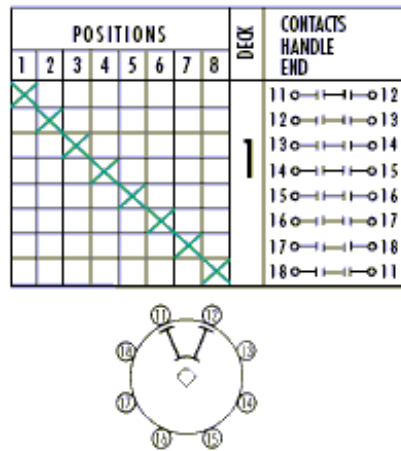

Fig.18 One pole per section, double break switching.
3. The configuration shown in Fig.18 allows any one circuit to be opened while the rest are closed, with make-before-break (shorting) action.
6. Double break switching (Fig.18).